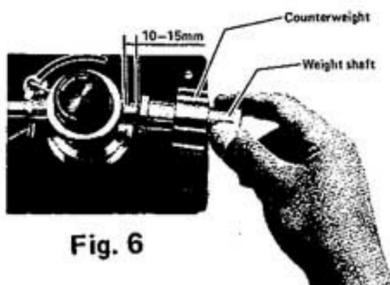

Fig. 6
a) Slide the counterweight back and forth, then set at approximately the middle of the weight shaft. Adjust for zero balance by turning the weight shaft clockwise or counterclockwise. (See Fig. 6.)